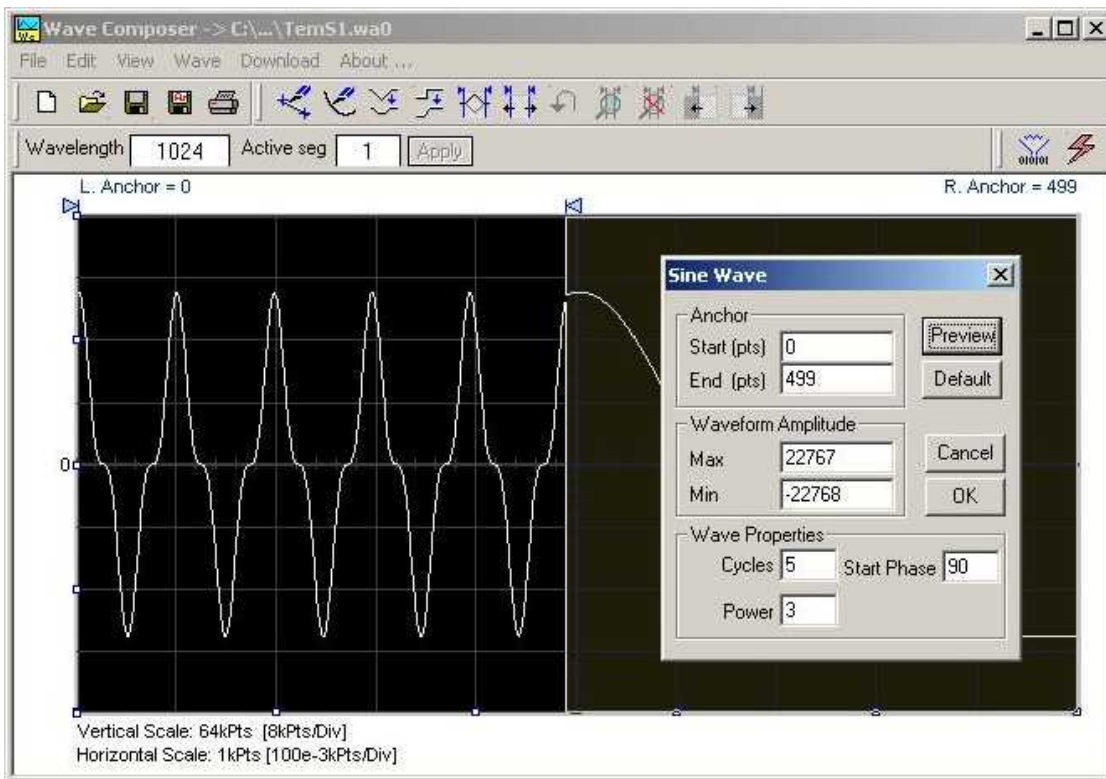

Figure 3-21, Generating Distorted Sine waves from the built-in Library
You can create any waveform from the built-in library using the Wave command. Clicking on one of the Wave options will open a dialog box. An example of the Sine waveform dialog box is shown in Figure 3-21. This dialog box is representative of the rest of the waveforms, so other waveforms will not be described.
Use the following procedure to create sine waveforms from the built-in library. Click on Wave, then sine... the dialog box as shown in Figure 3-21 will appear. You can now start programming parameters that are available in this box.
- 2) You can also place your anchors in a more precise manner from the waveform library by programming the start and end points for the waveform. An example of anchor placement using the sine dialog box is shown in Figure 3-21.